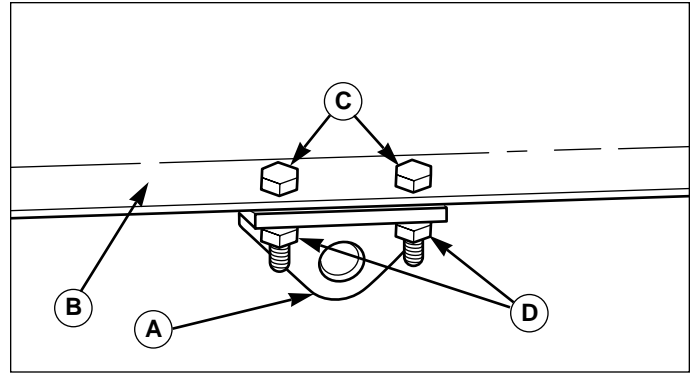

Figure 8. Front Hitch Mounting Brackets
2. Attach the front hitch mounting brackets (A, Figure 8) to the bracket mounting holes in both sides of the frame using 5/16-18 x 1-1/4 capscrews (C), lockwashers, and nuts (D).